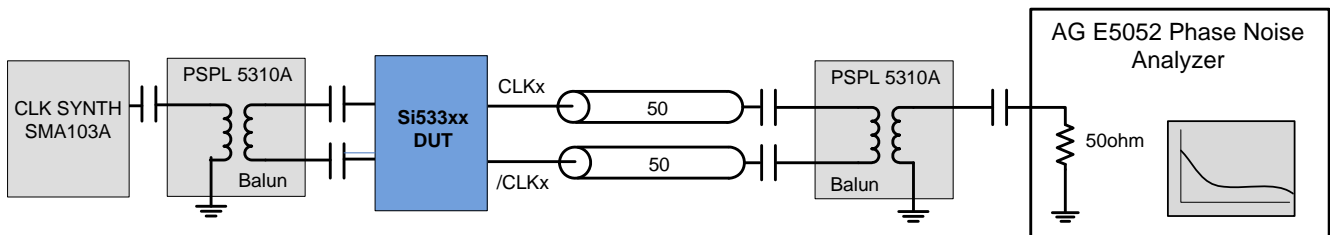

Figure 1. Differential Measurement Method Using a Balun
3. Measured differentially using a balun at the phase noise analyzer input. See Figure 1.
3. Measured differentially using a balun at the phase noise analyzer input (see Figure 1).
Total Jitter (Diff'l): Combined source and clock buffer phase noise measured as a differential output to the phase noise analyzer and integrated from 12 kHz to 20 MHz. The differential measurement as shown in each figure is made using a balun. See Figure 1 on page 8.